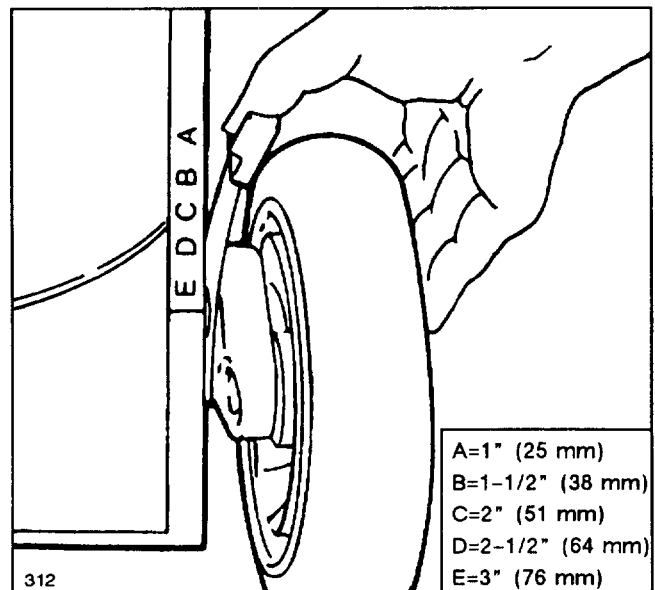

Figure 8
Five letters cast into the housing represent each graduated height-of-cut setting (Fig. 8).
2. For easier adjustment, lift housing up so wheel is off ground. **Do not put fingers under housing when lifting.** Squeeze adjusting lever toward wheel and move to desired setting (Fig. 8). Assure pin on adjusting lever engages notch in housing. Adjust all wheels to the same setting.